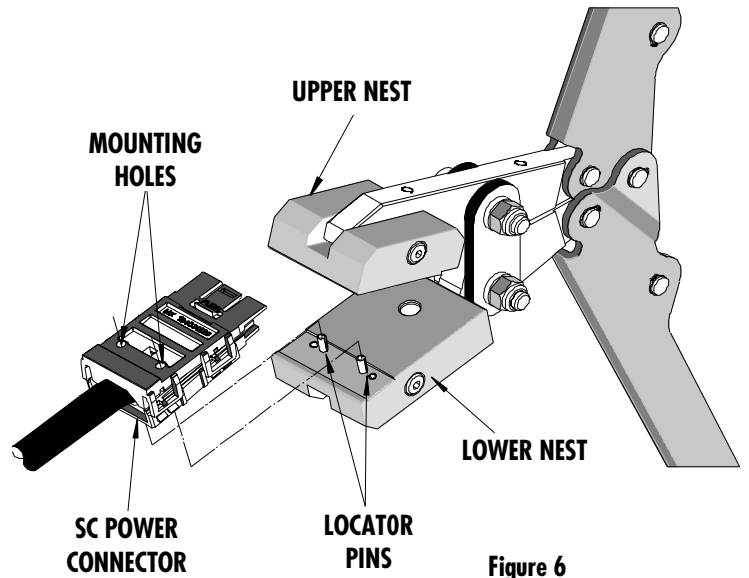

Figure 6
6. Place the connector assembly on the lower nest by positioning the connector mounting holes onto the locator pins as shown in Figure 6.